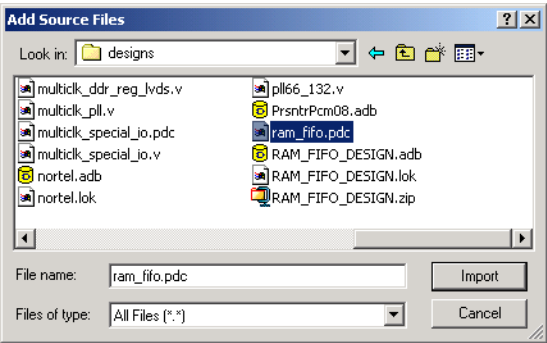

Figure 7-3. Add Source File Dialog Box
2. **Click the *Add* button.** The Add Source Files dialog appears, as shown in Figure 7-3.